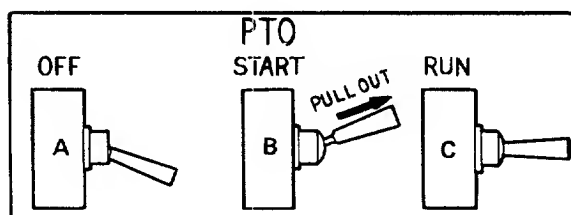

Figure 21
2. Flip the toggle switch to the "RUN" (C) position. (See Figure 21.)